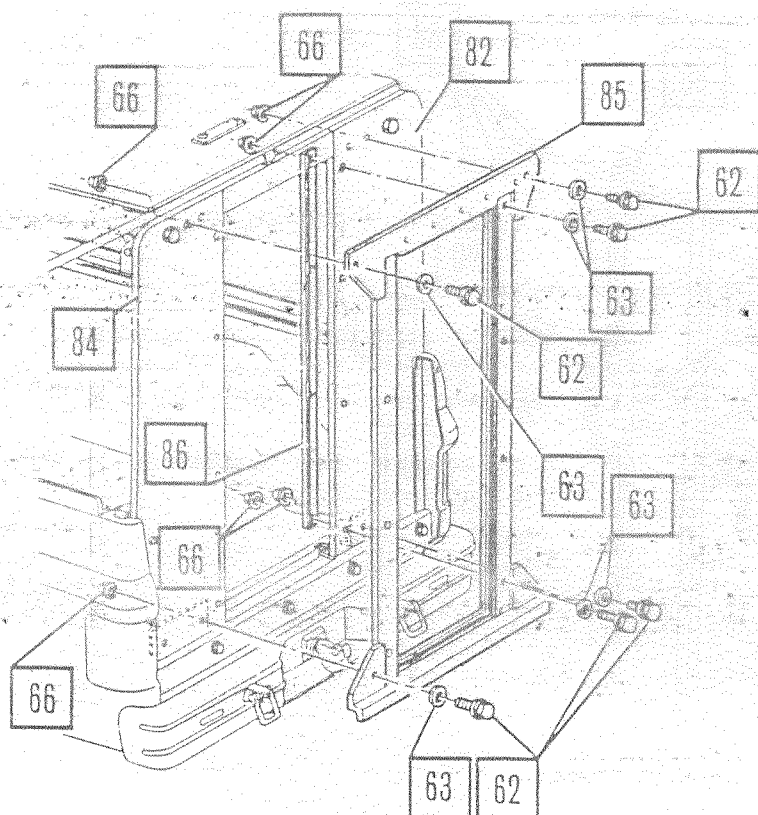

Figure 21.
71. Place rear door panel frame assembly onto opening and center right to left, and install nuts, bolts and washers in top corners of frame (Figure 21.).
75. Using door frame as a template, drill 13/32 inch side and top holes along opening (Figure 21.).
76. Install rear panel inner side molding with nuts, washers and bolts at top and bottom of opening on the right-hand side (Figure 21.).